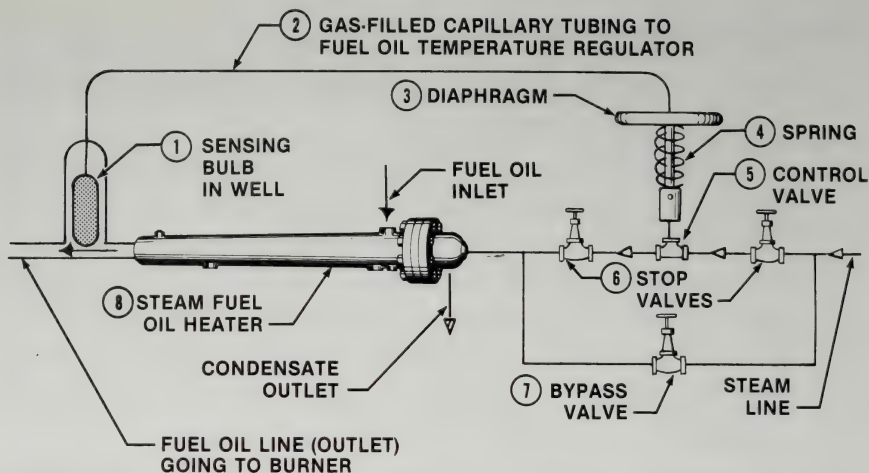

Figure 5-3. The fuel oil temperature regulator controls the fuel oil temperature by the amount of steam passing through the steam fuel oil heater.
The temperature of the fuel oil is regulated by the fuel oil temperature regulator. See Figure 5-3. As the temperature increases the sensing bulb (1) picks up or senses the